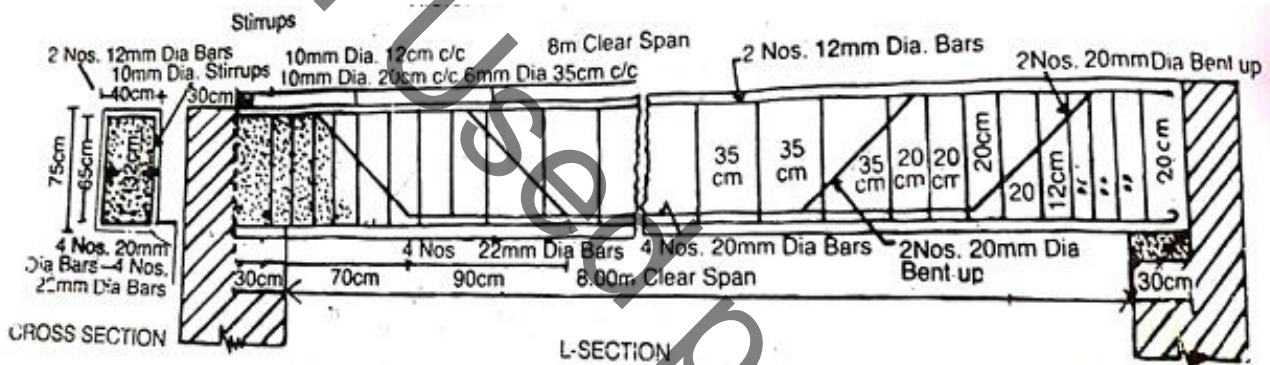

Figure 3
8. Prepare a bar bending schedule of a R.C.C beam of 8 m clear span and 75cm × 40 cm in section from the given drawings. Estimate the total quantity of steel required. As shown in figure 3. [10]